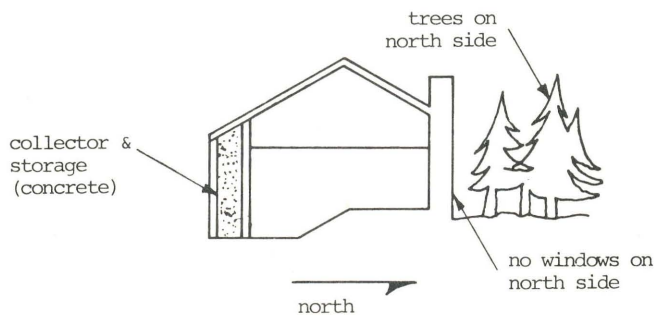

Figure 4. — Properly sited and aligned house.
A. Solar energy is not suitable for everyone's house. You need to know whether your house or lot can handle a large enough collector and storage system. The collector must face a southern direction and receive sufficient unobstructed sunlight, otherwise the collector won't work (see Figure 4).